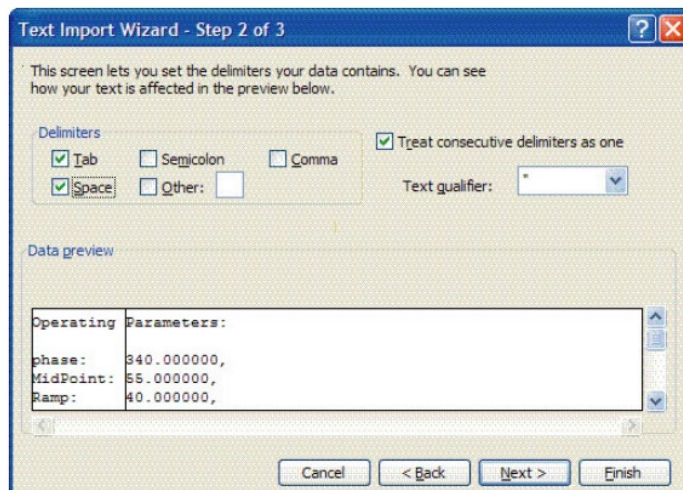

Figure 10. Setting Tab and Space as delimiters
2. The **Text Import Wizard** should open. Choose the **Delimited** option and click **Next**, as shown in Figure 10.
3. Under **Delimiters**, choose the **Tab** and **Space** options, check the **Treat Consecutive Delimiters as One** box, as shown in Figure 10, and then click **Finish** to display the spreadsheet.